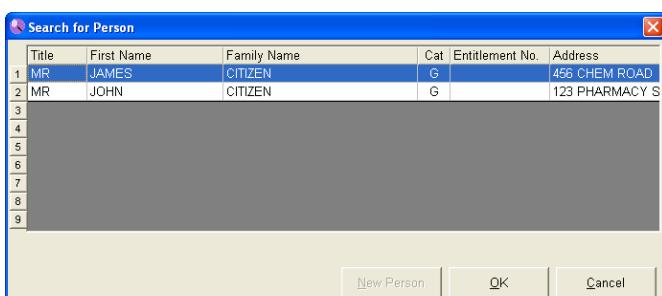

Figure 36
4. Once you have entered in the patient name, select 'OK'. This will display the 'Search for Person' (see Figure 36) window, highlight the patient and select 'OK'.